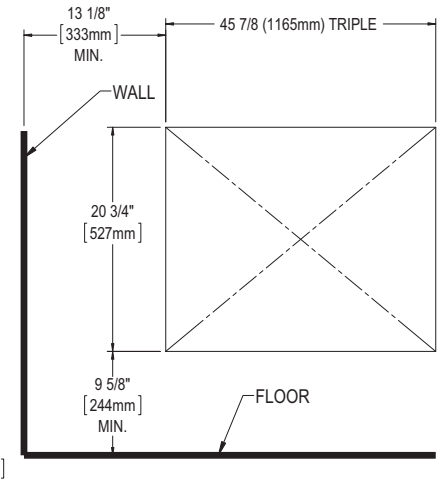

FIG. 3
2. Triple units must meet a minimum distance of 12 inches (305 mm) from the wall and 8 inch (203 mm) from the floor. For the opening of recessed installation of triple units, see figure 3.